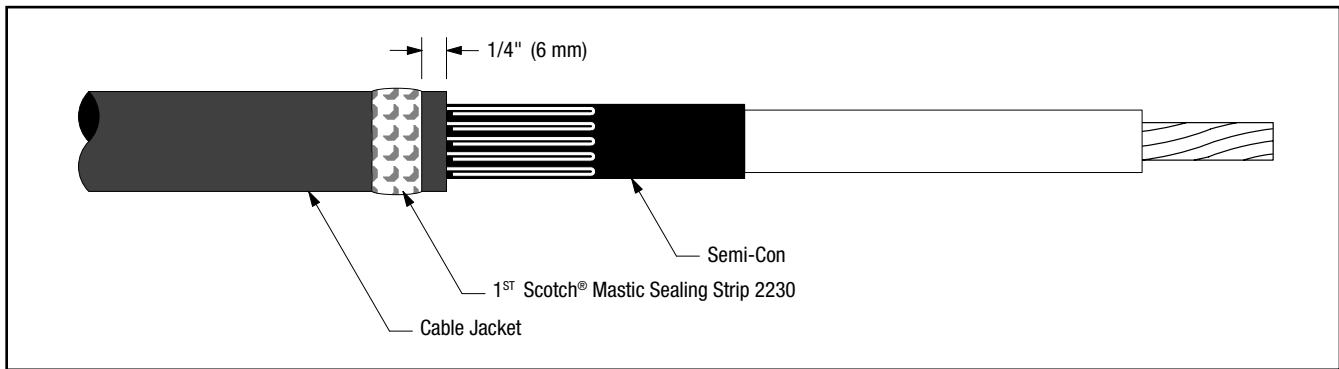

Figure 9
- 8.1 Select a Scotch® Mastic Strip 2230 from kit and remove white release liners. Using light tension, apply a **SINGLE WRAP** of mastic around the cable jacket 1/4" (6 mm) from cut edge (*Figure 9*). Cut off excess.